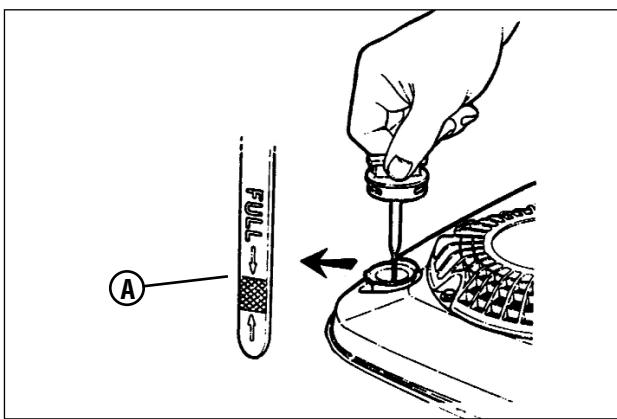

Figure 2: Checking engine oil
4. Check the engine oil and add oil as needed to bring the level up to the full mark (A, **Figure 2**). Refer to the Engine Owner's Manual for oil specifications.